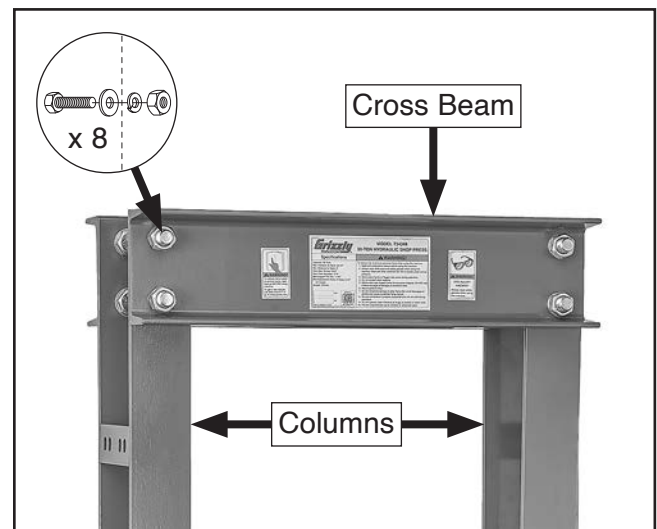

Figure 6. Cross beam secured to columns.
4. With help from an assistant, secure cross beam to top of columns with (8) M20-2.5 x 50 hex bolts, 20mm flat washers, 20mm lock washers, and M20-2.5 hex nuts, as shown in **Figure 6**.